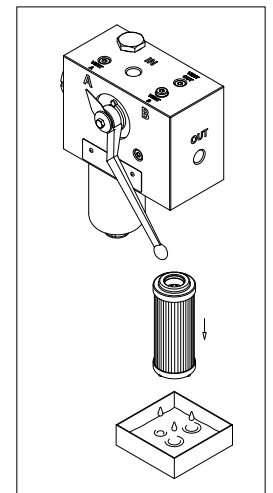

fig. 28
- (Fig. 28) Pull the filter element out.